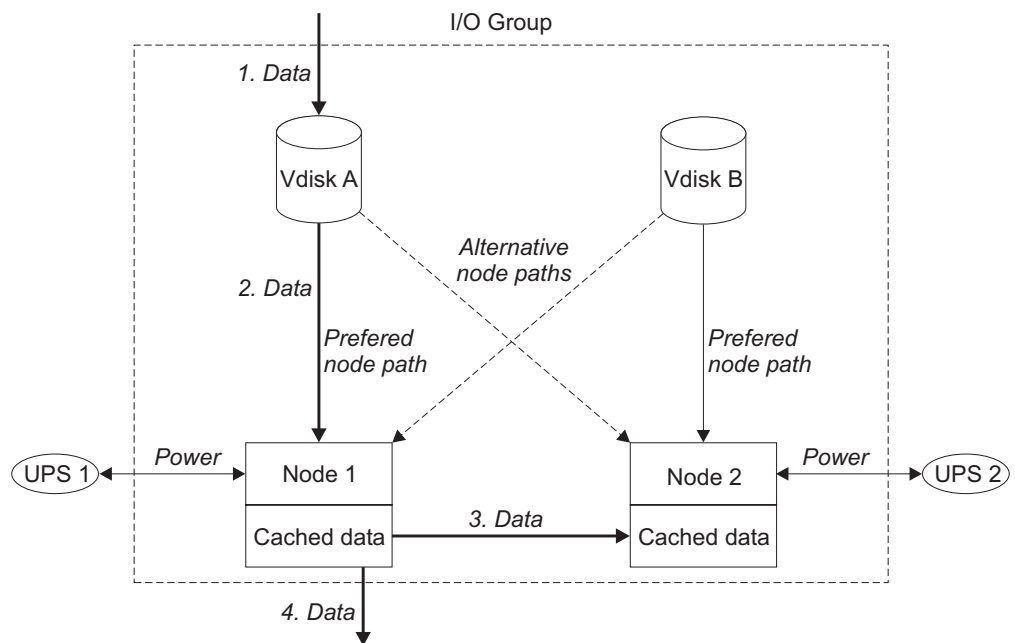

Figure 9. I/O group and UPS
Figure 9 shows a write operation from a host (1), that is targeted for VDisk A. This write is targeted at the preferred node, Node 1 (2). The write is cached and a copy of the data is made in the partner node, Node 2's cache (3). The host views the write as complete. At some later time, the data is written, or de-staged, to storage (4). Figure 9 also shows two uninterruptible power supplies (UPSs) correctly configured so that each node is in a different power domain.